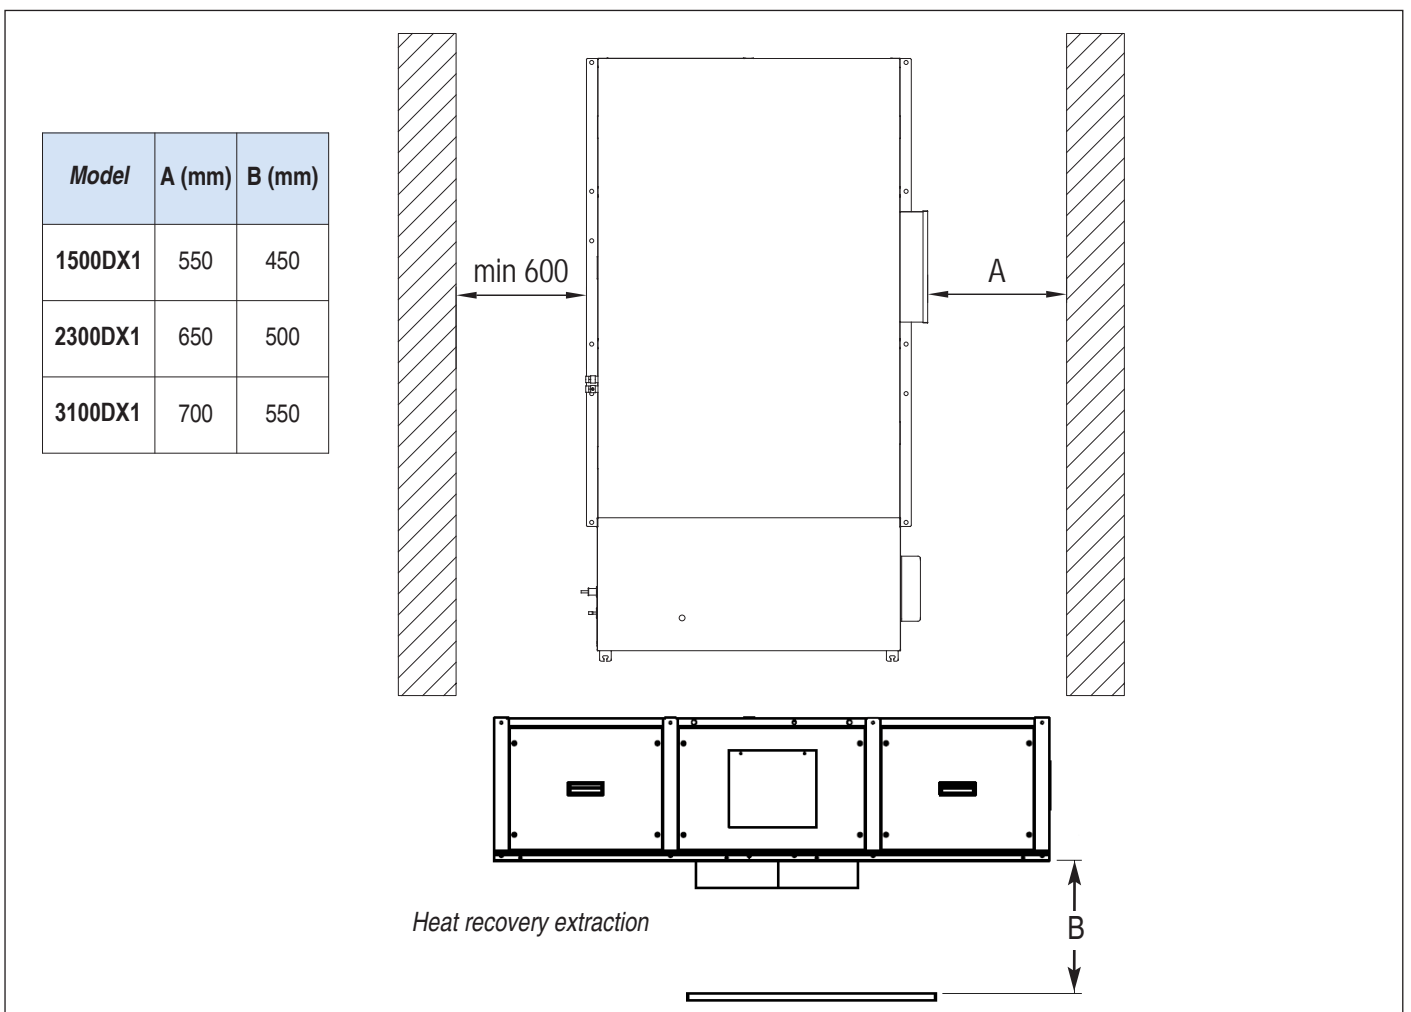

fig. 5
- Leave a minimum amount of free space around the unit, as shown in the figure, so as to allow for installation, maintenance and the replacement of components, such as coils, filters etc. (fig. 5).